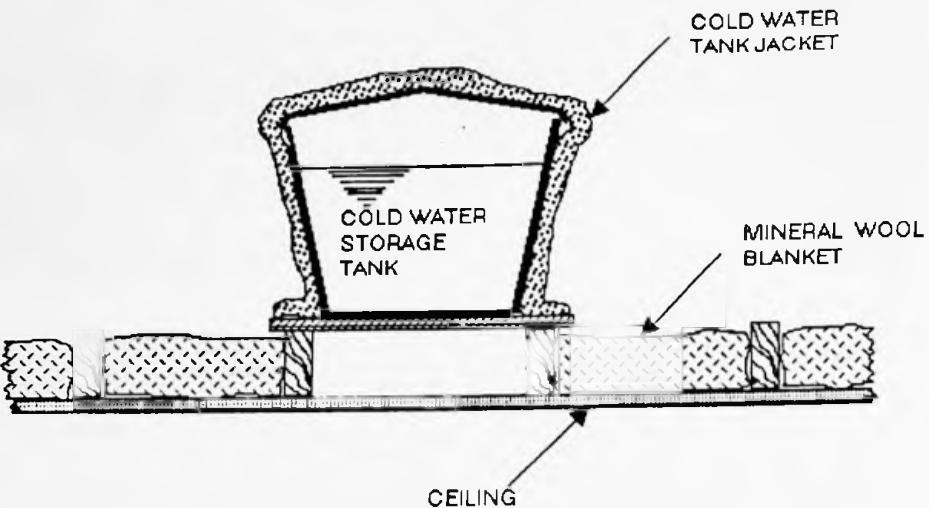

Fig 3.4 Insulate around but not beneath cold water storage tanks to ensure that enough heat reaches them to prevent freezing.
- If there are cold water storage tanks or a central heating header tank in the loft space, these should be insulated too, but no insulation should be placed beneath them (see Figure 3.4). This is to ensure that some heat reaches them and the water does not freeze.